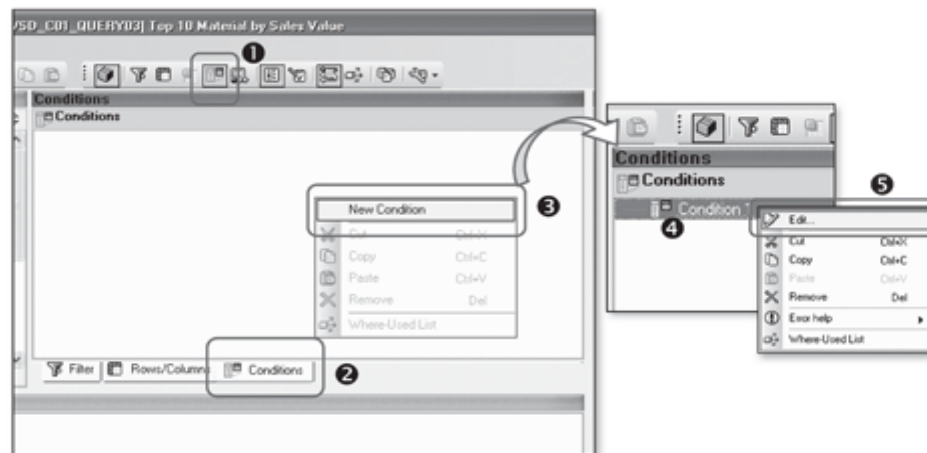

Figure 9.80 Create a New Condition
1. The conditions are maintained in the Conditions screen area of the query designer. To display this area, click on the conditions icon from the toolbar (❶ of Figure 9.80). The Conditions screen area appears (❷).